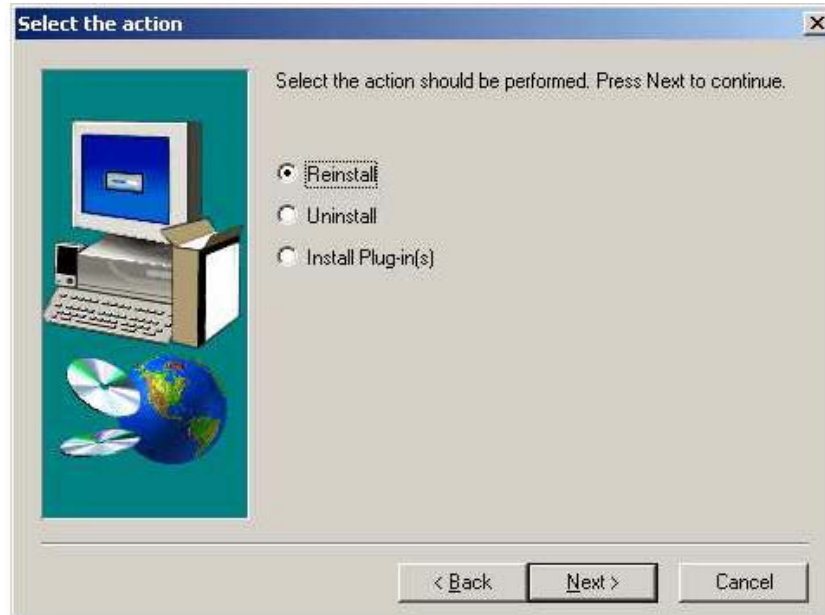

Figure 4-2. Select Action
1. This window will be shown only, if the NORMA View has been installed on your computer (Figure 4-2).